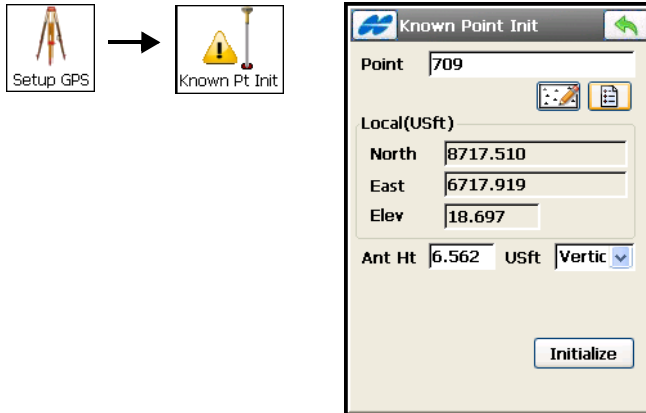

Figure 8-11. Known Point Rover
1. In the *Known Point Init* screen (Figure 8-11 on page 8-15), select the known point and set the antenna parameters of the station.
2. To start initialization, tap the **Initialize** button (Figure 8-11 on page 8-15). The **KPI Position** screen displays the status information on Rover initialization (Figure 8-12).